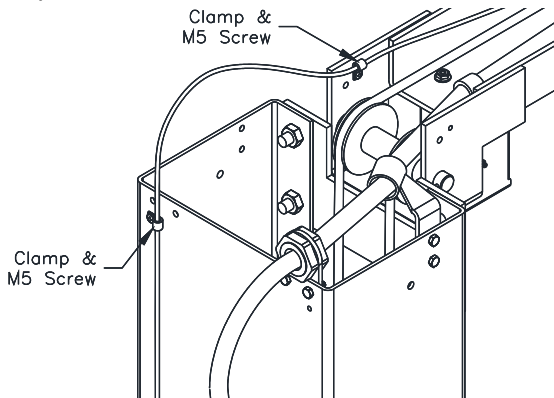

Fig. 10 – Lock Cable Routing
- 30) Secure Lock Release Cable at the top of each column extension as shown in Fig 10. Lock Release Cable should be routed on the opposite side of the Overhead Beam as the Idler Hose to prevent interference.